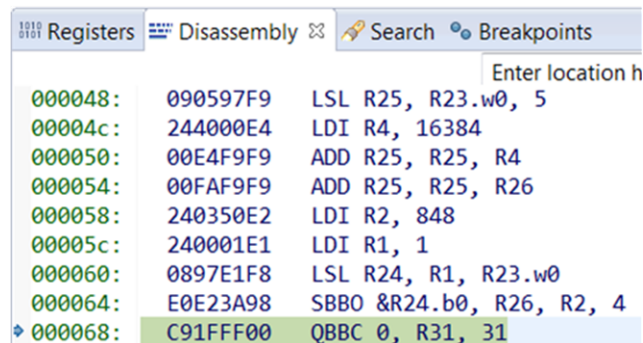

Figure 15. PRU_1 Disassembly Dode
2. Disassembly view in CCS. Step into and Step over can be used. Figure 15 shows example of PRU_1 Disassembly code.